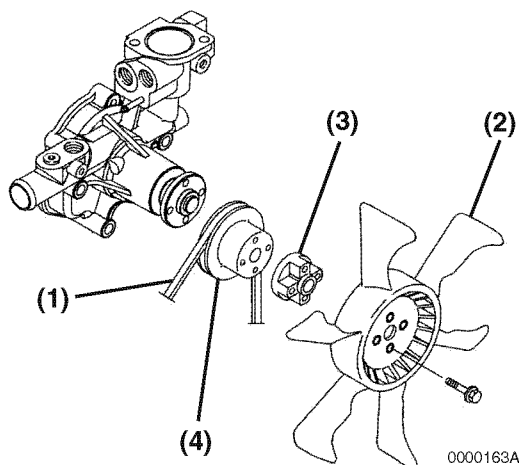

Figure 7-8
2. Remove the engine coolant fan guard (if equipped), engine coolant fan (**Figure 7-8, (2)**), spacer (**Figure 7-8, (3)**) if equipped, V-pulley (**Figure 7-8, (4)**) and cooling fan V-belt (**Figure 7-8, (1)**).